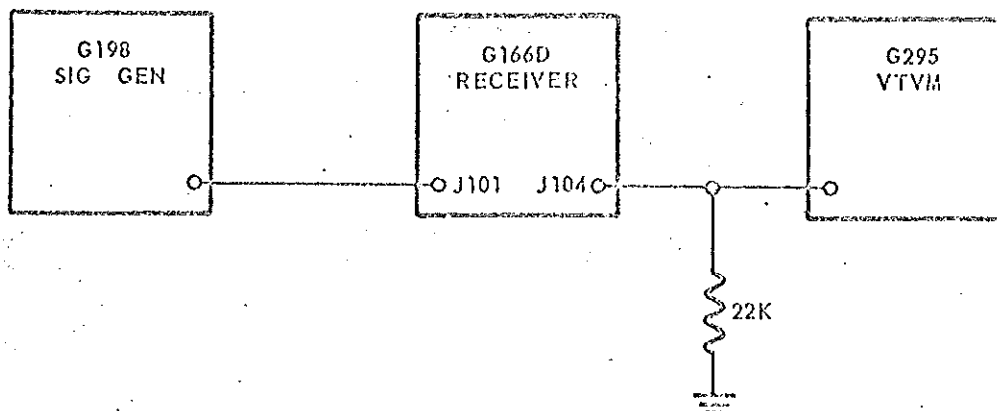

Figure 5-10
- a. Connect test equipment as shown in figure 5-10.
- a. Connect equipment as shown in figure 5-10.